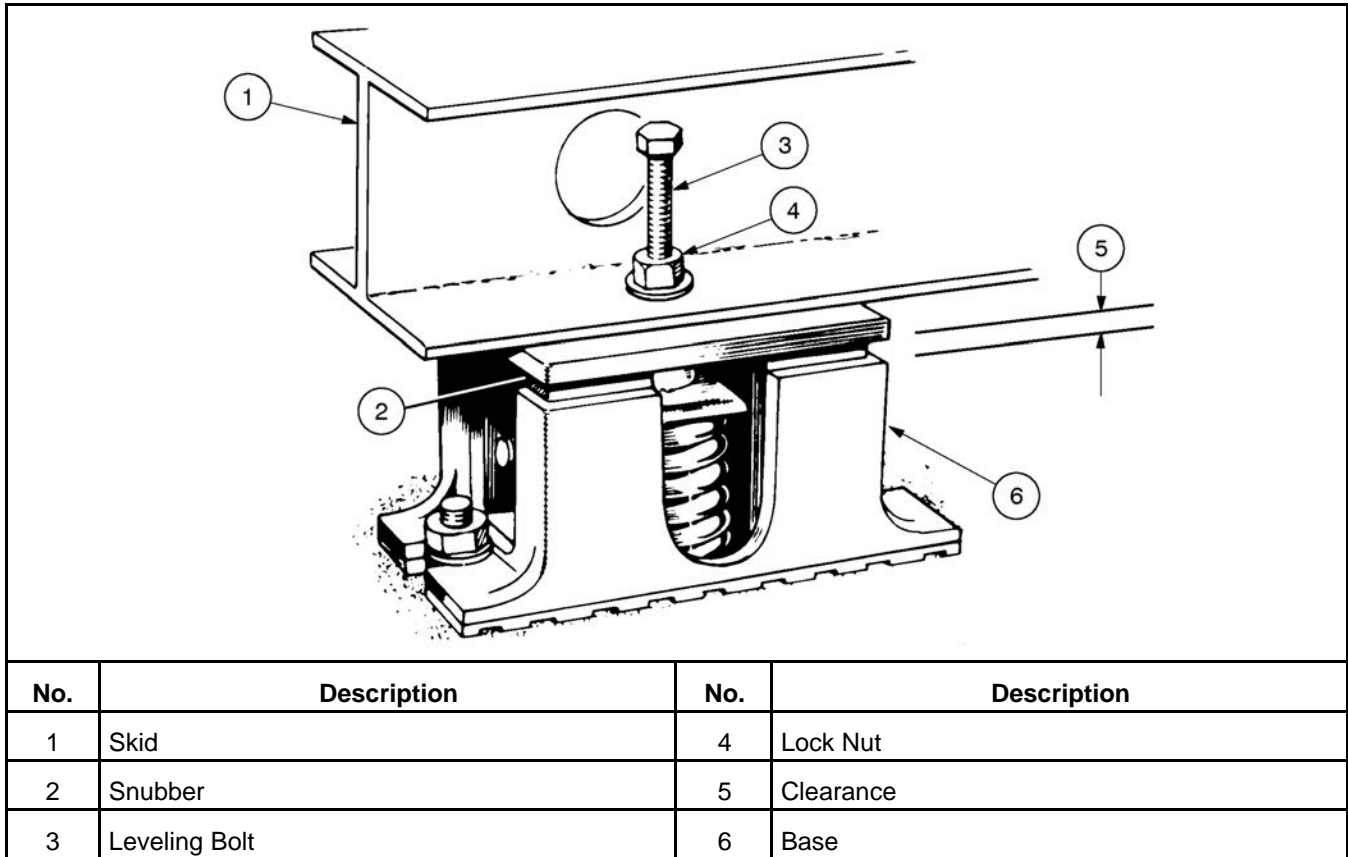

FIGURE 4. VIBRATION ISOLATOR INSTALLATION
1. Place the vibration isolators (see Figure 4) on the generator set support structure. The isolators should be shimmed or grouted to make sure that all of the isolator bases are within 6 mm (0.25 inches) elevation of each other. The surface that the isolator bases rest on must also be flat and level.